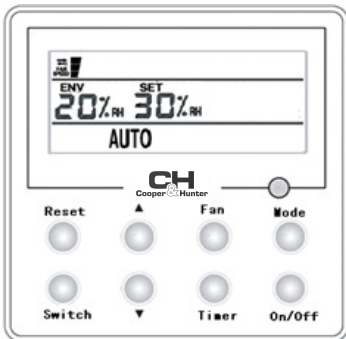

Figure 4
- ◆ As shown in the figure 4, under the fresh air mode, by pressing the “Fan” key, the fan speed will change circularly from low speed to medium speed to high speed, which however is unavailable for CH-HRV15 and CH-HRV20.